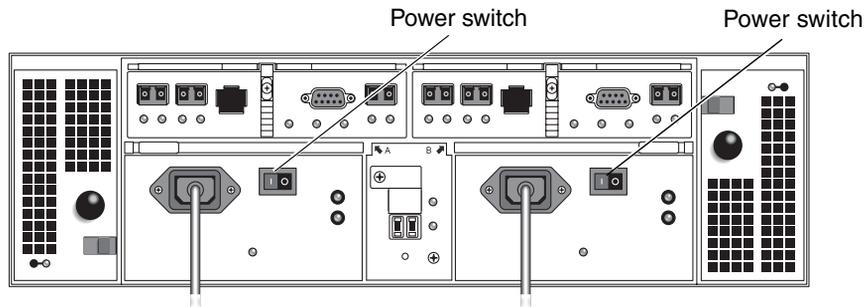

FIGURE 3-1 Array Module Power Connectors and Switches
1. Turn off both power switches on each module that you want to connect to the cabinet's main power (FIGURE 3-1).